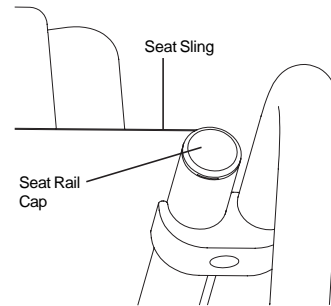

Figure 4
1. Remove the seat cushion and the seat rail cap. Fold TX. See figure 4.